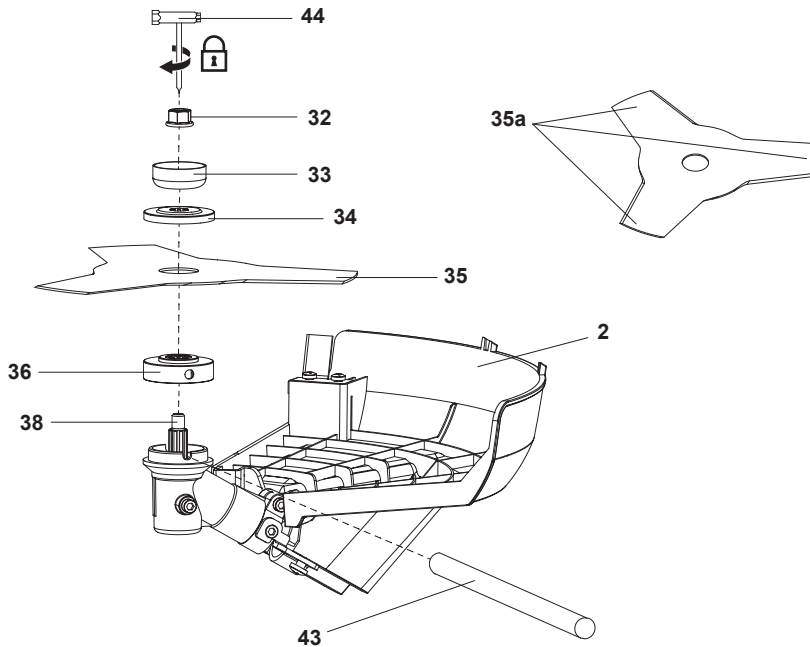

Fig. 5
1. Rotate the backing flange (36) until its hole is aligned with the notch in the gear head (38).
2. Insert the spindle lock rod (43) into the hole to lock the spindle (37).
3. Loosen the trimmer head (1) clockwise by hand and remove it together with the locking flange (34).
4. Fit the cutter blade (35) onto the spindle (37). Ensure that the cutter blade (35) sits flush on the extruded ring on the backing flange (36). Ensure that the direction of rotation marked on the cutter blade (35) and the guard (2) correspond.
5. Place the locking flange (34) and the cup washer (33) onto the cutter blade (35). Ensure that they are in the correct orientation.
6. Secure the cutter blade (35) by tightening the locking nut (32) anticlockwise using the supplied multi tool (44) and spindle lock rod (43).
7. Remove the multi tool (44) and the spindle lock rod (43).
8. Remove the blade protectors (35a) from the cutter blade (35) if attached before operation (Fig. 5).